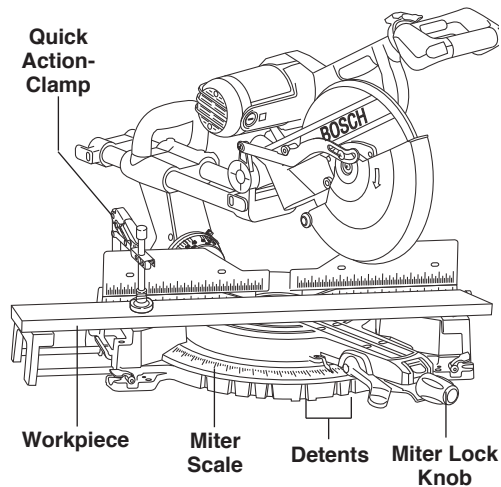

Figure 32. Miter Cut
1. Loosen miter lock knob. Lift miter detent lever and move the saw to the desired angle, using either the detents or the miter scale. Tighten miter lock knob (Figure 32).